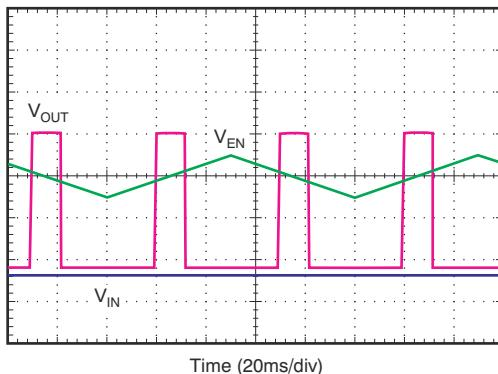

Figure 7-1. Enable Pin Positive and Negative Threshold
The TPS7H1210-SEP provides a dual-polarity enable pin (EN) that turns on the regulator when $|V_{EN}| > 2$ V, whether the voltage is positive or negative, as shown in Figure 7-1. Specifically, if $V_{EN} \geq V_{EN(+HI)}$ or $V_{EN} \leq V_{EN(-HI)}$, the regulator is enabled. If $V_{EN(+LO)} \geq V_{EN} \geq V_{EN(-LO)}$, the regulator is disabled.